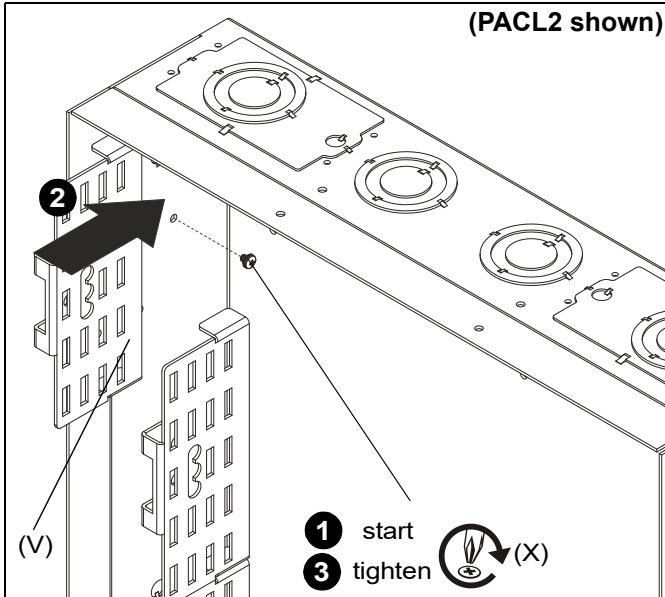

Figure 10
1. Partially install #10-24 x 1/4" Phillips screws with external tooth washers (X) into holes on sides of PAC box. (See Figure 10)
2. Slide each adapter (V) inside PAC box. (See Figure 10)
3. Tighten #10-24 x 1/4" Phillips screws with external tooth washers (X) to secure adapter (V) to PAC box. (See Figure 10)